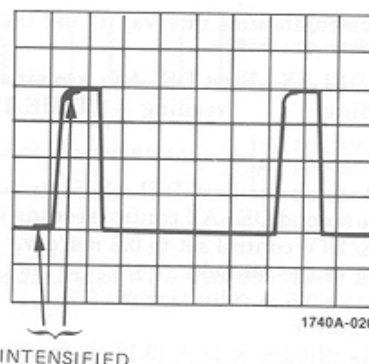

Figure 21. Intensified Area on First Pulse
2. Set the delayed TIME/DIV control as required, and turn the DELAY control to place the intensified portion on the first pulse (see figure 21).